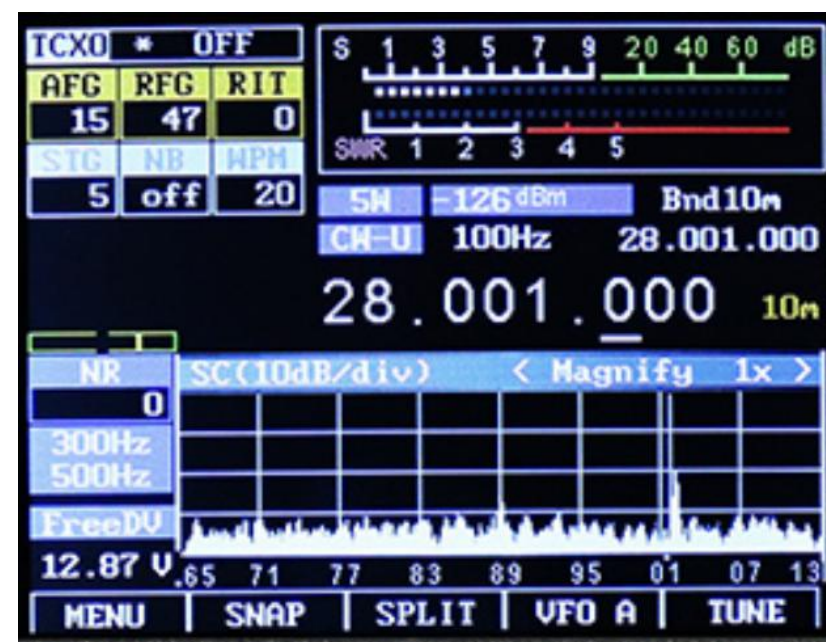
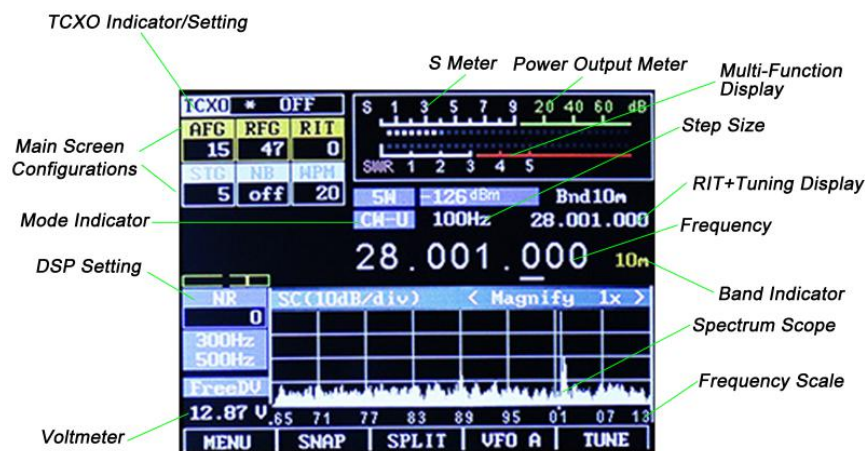

Figure 2: Main display of the HS1 transceiver
Figure 3: The main screen (annotated) with the SPLIT function activated.
- **Main Frequency Display:** This may be displayed either as a single frequency (transmit/receive as in **Figure 2**) or as a “Split” display as shown in **Figure 3** with separate transmit and receive frequencies. If the numbers in this display are grey the “Frequency Lock”(toggled by pressing-and-holding both the **STEP-** and **STEP+** buttons simultaneously, or configured in the menu)is active. If this display is **yellow**, a transverter offset has been configured.
- **Step Size Indicator:** Above the center of the main frequency display, between the Mode Indicator and the “Sub” Frequency display is the setting of the current step size. In Figures 2 and 3 the step size is set to 1 kHz. Optionally, a “marker” may be activated that puts a line under the digit indicating the currently-selected step size (see the menu item “Step Size Marker”).
thermally-bonded to the temperature sensor, U10, with a piece of copper or aluminium - and apply a compensation to it to keep on frequency. When it is active the bar graph below the temperature display will display white dots with a blue marker that moves about but when set to “Off”, the bar graph will be grayed out. If set to “Stop” the temperature display will be replaced with “STOPPED”. In Figures 2 and 3 the TCXO is set to ON and displaying a temperature of 112.5F, but this may be set to display the temperature in Centigrade. If the temperature is very low (below 0C or 32F) this will display dashes and the temperature compensation will be disabled until the temperature-coupled synthesizer/sensor exceed this minimum threshold.
- **S-Meter:** This S-meter is nominally calibrated so that S-9 equals 50 micro volts into a 50 ohm load with each S-unit representing 6 dB. Practically speaking, the usable range of the S-meter ranges from about S-3 to something a bit higher than “40 over” which, if you were “run the numbers” about matches the dynamic range of the receiver! The bottom half of the S-Meter's graticule (“S0-S9”) is normally white in color, but if the receiver's A/D converter experiences an overload condition, it will turn red. On bands with strong signals it is normal for this to momentarily flash red as the internal gain control adjusts itself. In Figures 2 and 3 the S-meter is displaying a signal level of S-9.
• **FIL:** Below this is the current filter bandwidth setting, selectable by using button BW. In Figures 2 and 3 the bandwidth is shown being set to 2.3 kHz.
• **Power Output Setting:** Just above the FIL icon is the currently-selected output power setting, selectable using button G3. In Figures 2 and 3 the power is shown being set to 5 watts.
Below the frequency readout, shown in Figure 2 and Figure 3 is a spectrum display that shows signals that are on either side of the current tuned frequency. Along the bottom of the spectrum display is a frequency scale that shows the frequency scaling of the graticules rounded to the nearest kHz. This display works very much like a spectrum analyzer with the vertical scale being represented logarithmically, the number of dB/division being selectable by the user. To further the analogy to a spectrum analyzer, the “reference level” (the signal level at which a particular strength is indicated) is automatically adjusted via an AGC (Automatic Gain Control) within the spectrum scope that operates independently from the receiver's AGC that automatically scales the strongest signal within the passband such that it is at/near the top of the scope—this, to allow the representation of widely varying signals on different bands without the need of user adjustment.